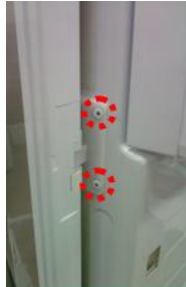

Figure 1
1. Disconnect water supply tube by pushing back on the disconnect ring (3).-FIG. 1
2. Open door. Loosen top hinge cover screw (1).
- Use flat tip screwdriver to pry back hooks on front underside of cover (2). Lift up cover.
5. Disconnect all 3 wiring harnesses (4). Remove the grounding screw (5).
6. Rotate hinge lever (6) counterclockwise. Lift top hinge (7) free of hinge lever latch (8).